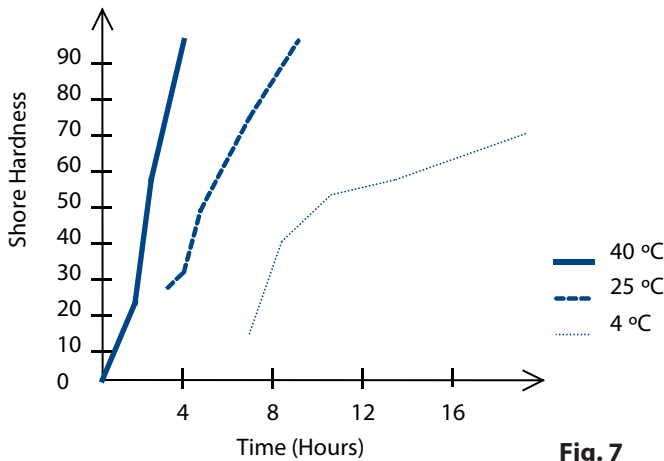

Fig. 7
F Remove the entry ⑥ spread out the cable cores and the individual strands of uninsulated conductors for the compound packing. Pack the compound between the cores and strands shown. See notes below and Fig. 7 for compound preparation.
J Allow the compound to cure. (See Fig. 7 for Curing Times). Untighten the sub-assembly ① and ② from the entry ⑥. Check that the compound has cured.